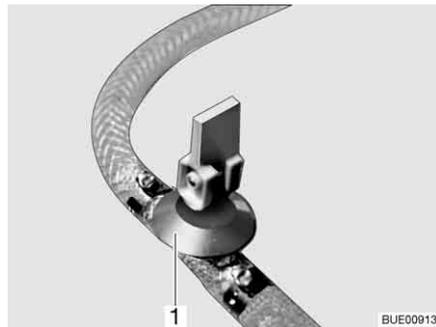
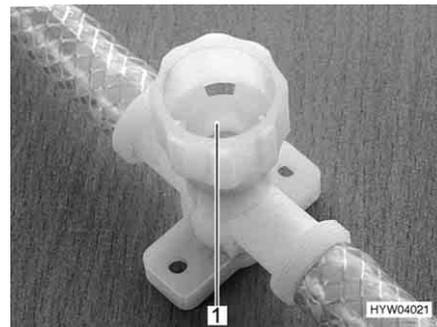

Fig. 239 Drain cock (with rocking lever)
Fig. 240 Drain cock (with twist cap)
- Close all drain cocks. To do this, position the drain cock's rocking lever (Fig. 239,1) horizontally or turn the drain cock's cap (Fig. 240,1) in a clockwise direction.